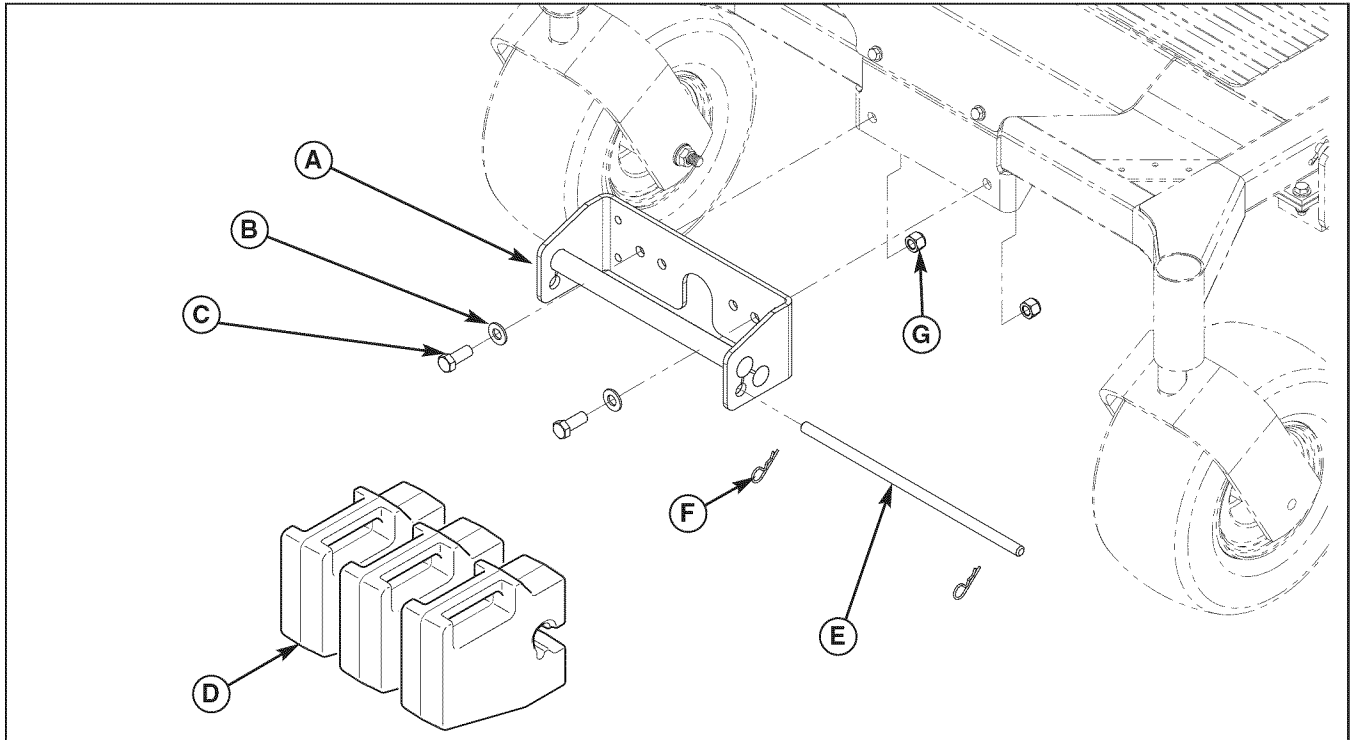

Figure 54. Install Weight Carrier
1. Install the weight carrier (A, Figure 54) onto the front of the unit and secure with the 3/8-16 x 1-1/4" bolts (C), 3/8" washers (B) and 3/8-16" nylock flange nuts (G).
NOTE: Use top holes in the weight carrier for the IS2000Z Series (as shown in Figure 54).